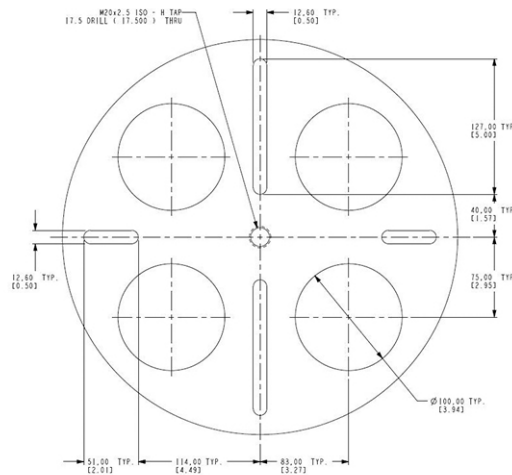

Figure 25: Universal extraction plate (PN: P6014749)
6. Evenly tighten the two jacking screws on the outboard bearing body so that the bearing body assembly slides towards the end of the shaft (see Figure 25). Pull the bearing housing assembly off the remaining portion of the shaft. Pry bars may be used to assist in pulling the bearing housing assembly off the shaft.